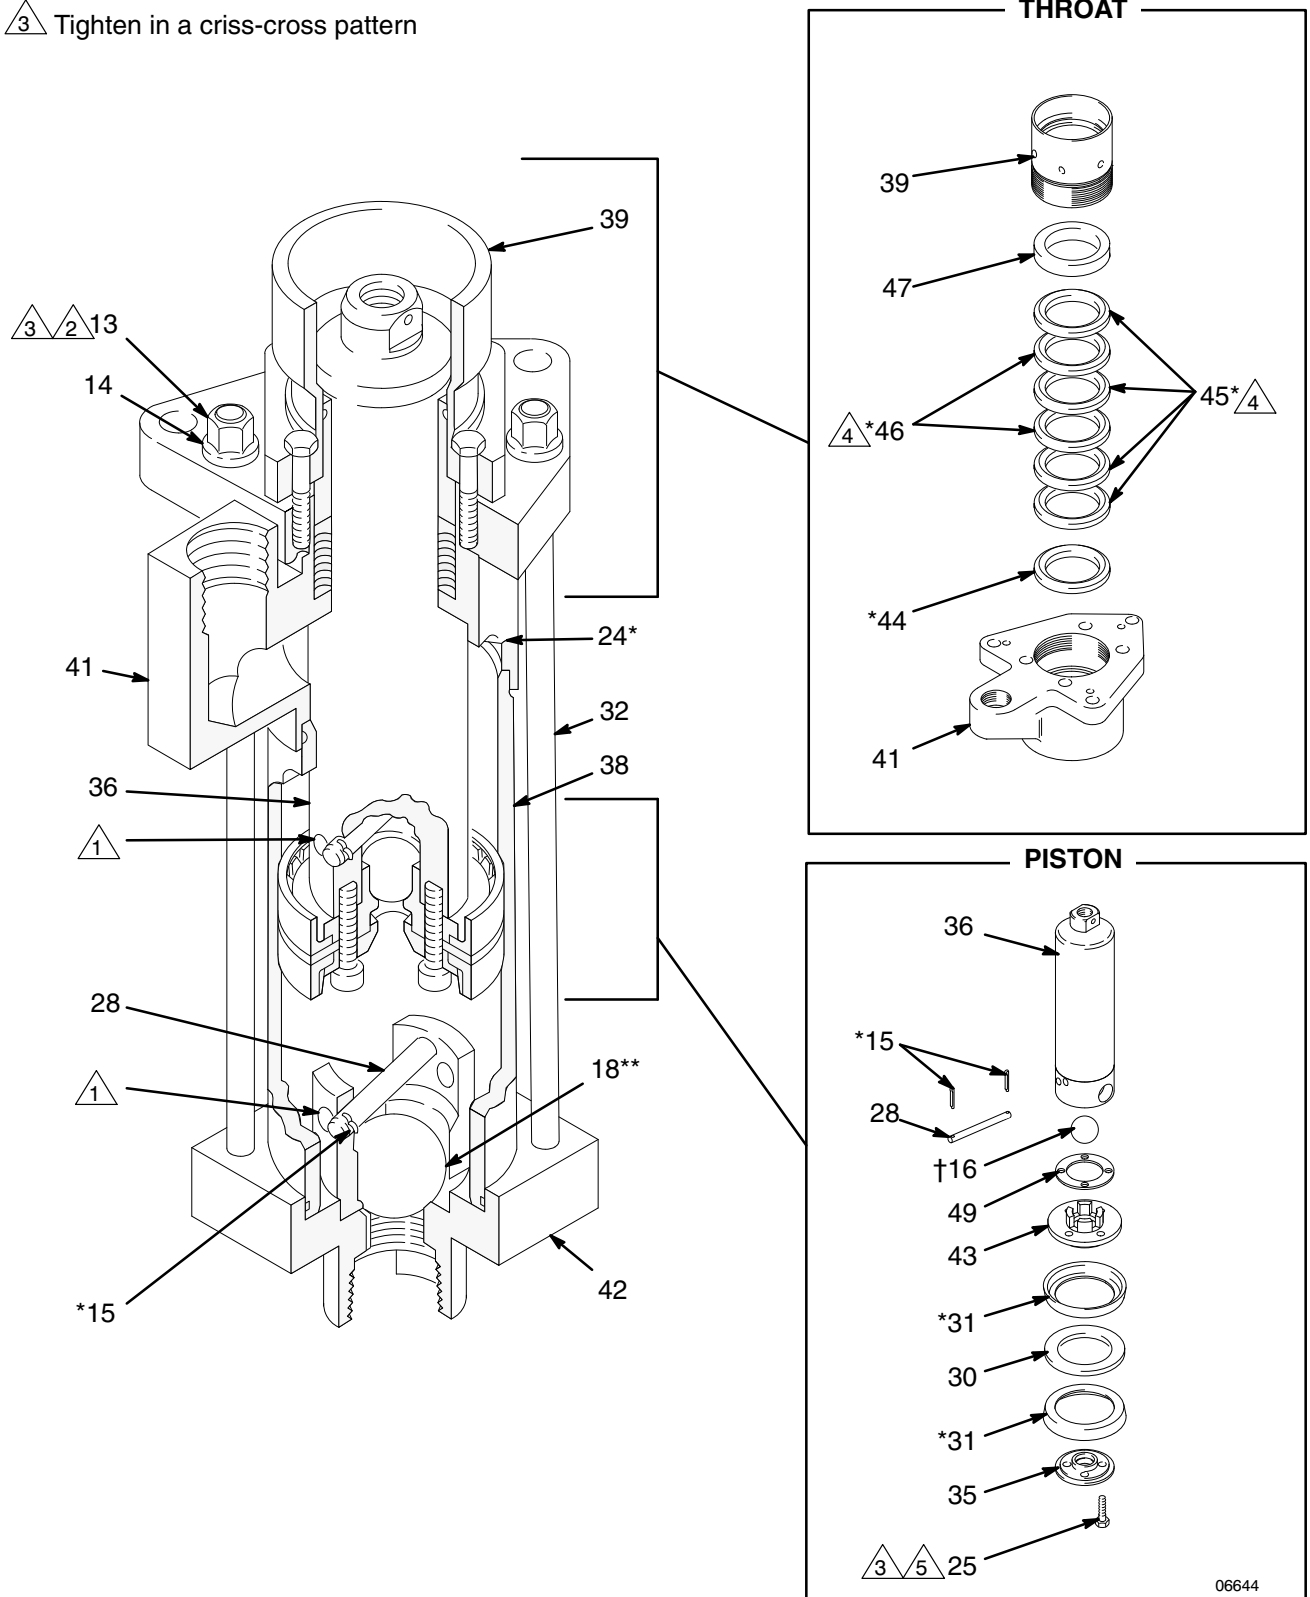

Fig. 1
Intake Valve (Fig. 1)
Piston (Fig. 1)
Throat Packings (Fig. 1)
For lighter fluids or lower volume requirements, or to reduce surging at the stroke change-over, decrease the travel of the balls (16 and 18). Move the pins (28) to a lower set of holes. See Fig. 1 and refer to the pump disassembly procedure above.
For heavier fluids or to increase the flow, increase the travel of the balls (16 and 18). Move the pins (28) to a higher set of holes. See Fig. 1 and refer to your pump disassembly procedure above.